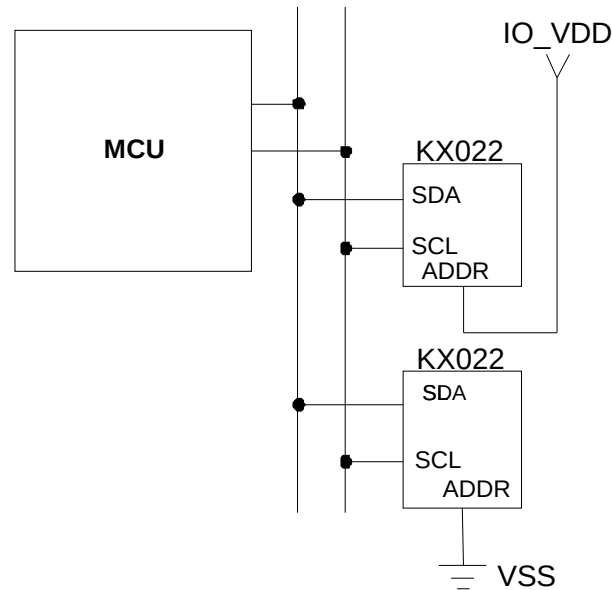

Figure 1: Multiple KX022 I²C Connection
Transactions on the I²C bus begin after the Master transmits a start condition (S), which is defined as a high-to-low transition on the data line while the SCL line is held high. The bus is considered busy after this condition. The next byte of data transmitted after the start condition contains the Slave Address (SAD) in the seven MSBs (Most Significant Bits), and the LSB (Least Significant Bit) tells whether the Master will be receiving data '1' from the Slave or transmitting data '0' to the Slave. When a Slave Address is sent, each device on the bus compares the seven MSBs with its internally stored address. If they match, the device considers itself addressed by the Master. The KX022's Slave Address is comprised of a programmable part and a fixed part, which allows for connection of multiple KX022's to the same I²C bus. The Slave Address associated with the KX022 is 001111X, where the programmable bit, X, is determined by the assignment of ADDR (pin 1) to GND or IO_VDD. Figure 1 above shows how two KX022's would be implemented on an I²C bus.